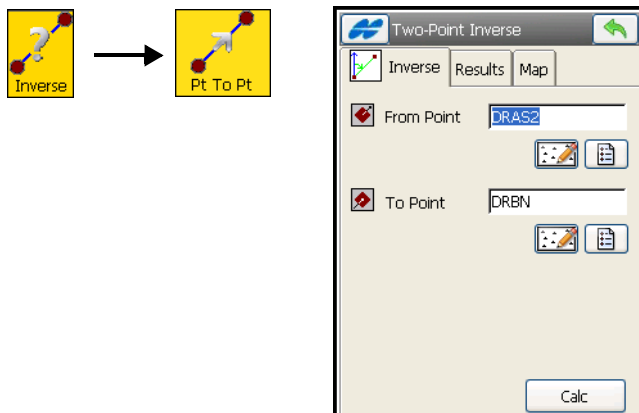

Figure 10-1. Two-Point Inverse
1. Select the points for the task from map or from the list (Figure 10-1 on page 10-2).